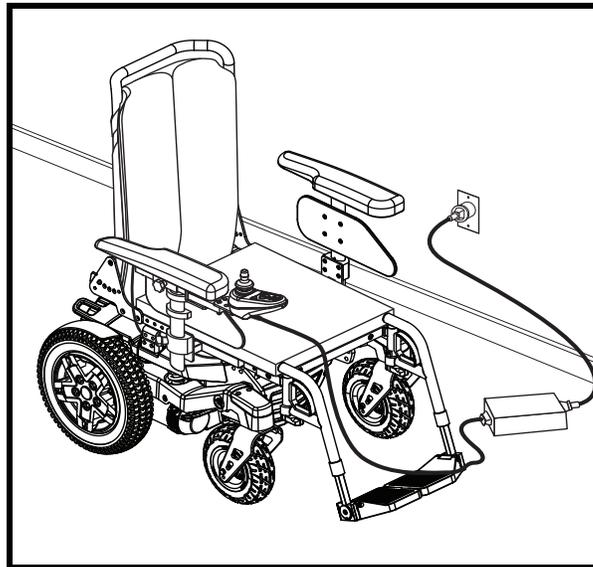

Figure 23. Battery Charging
3. Plug the off-board charger into the off-board charger/programming socket on the controller. See **figure 23**.